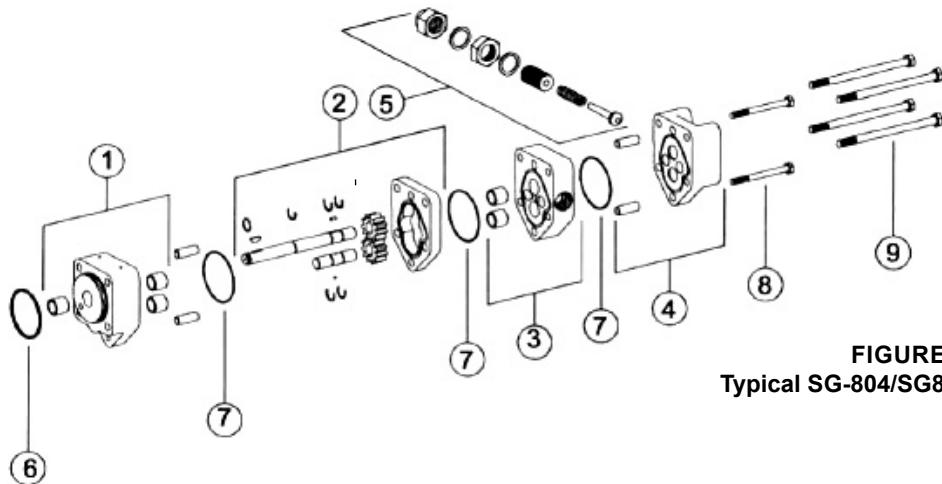
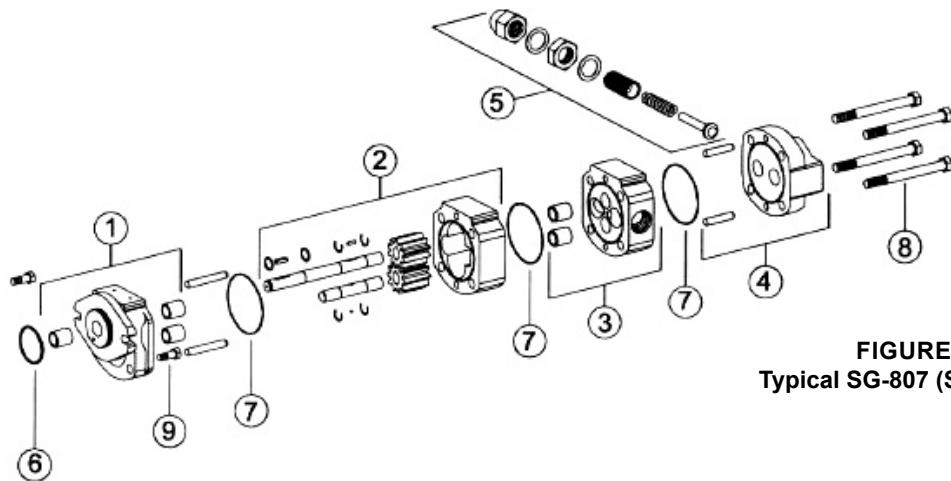

FIGURE 14
FIGURE 15
Replacement parts are only available as displayed in the table of parts (Figure 14 & Figure 15, Table 3). Contact your local distributor to obtain replacement parts. Be sure to supply the pump model number and serial number.
1. Remove the assembly capscrews (item 8, Figure 14 or 15).
4. After the casing is installed, place the driver and driven gears and shaft into the proper positions (refer to Figure 14 & 15) for proper positioning of driver and driven shaft assemblies.